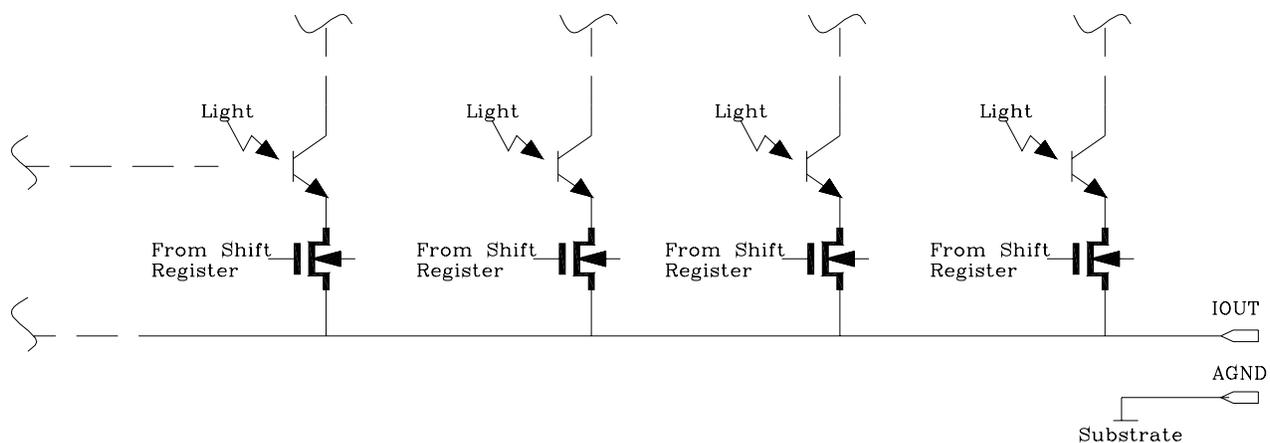
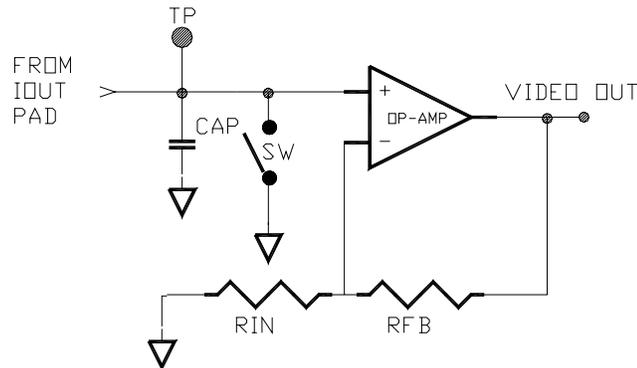
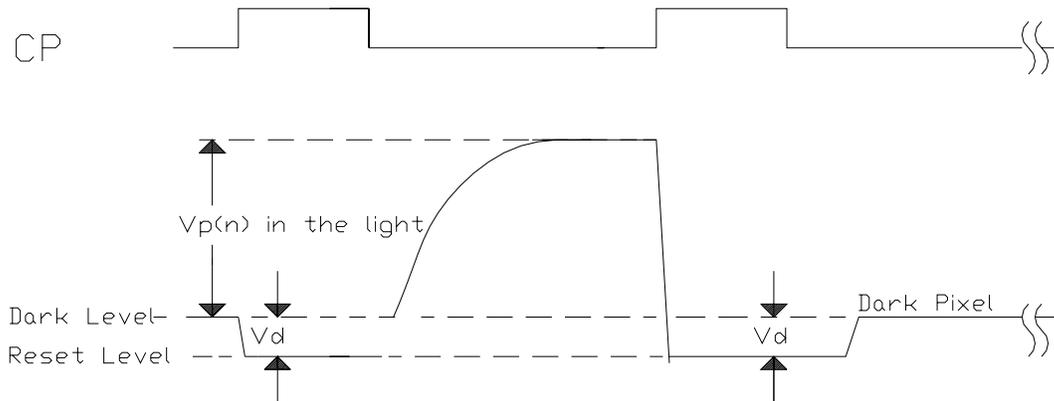
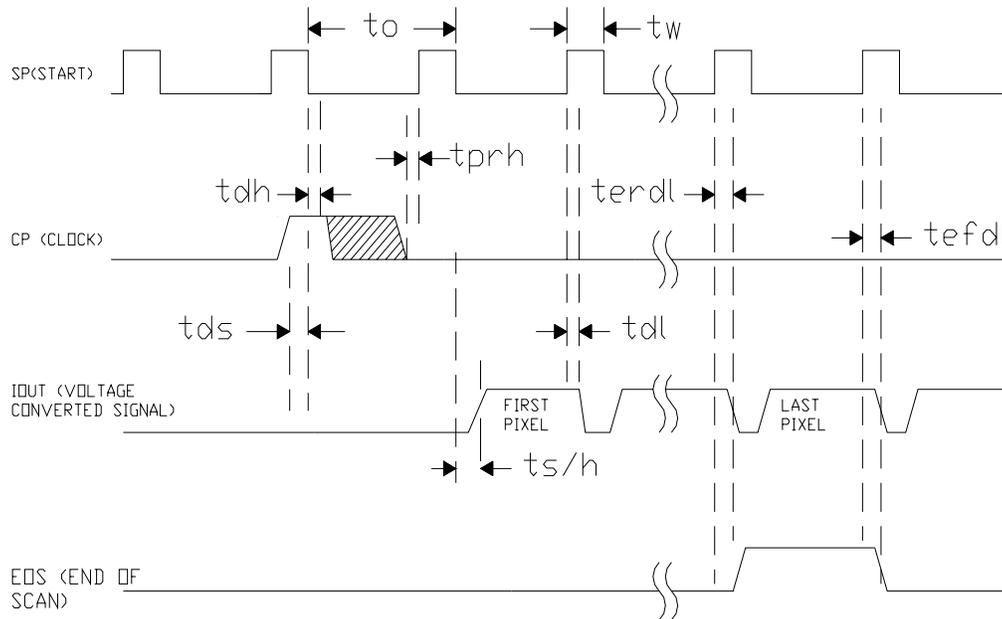

Figure 4. Video Pixel Output Structures
Figure 5. Video Output Test and Application Circuit
Figure 6. Single Pixel Video Output
Figure 8. Timing Diagram Of The PI3033B Sensor
Where $V_p(n)$ is the amplitude of nth pixel in the sensor chip and N_{pixels} is the total number of pixels in sensor chip. V_{pavg} is converted from impulse current video pixel into a voltage output. See Figure 4, Video Pixel Output in section Output Circuit Of The Image Sensor and Figure 5, Video Output Test and Application Circuit in section Signal Conversion Circuit on page 6 and 7.
Exp = LP x Tint, where LP is light power (Yellow-Green) and Tint is as defined above. See Figure 6, Vpavg Output versus Light Exposure in section Video Output Response Under Exposure, on page 8.
The video signal from each photo-site is connected to a common video line on the sensor. Each photo-site is composed of a phototransistor with a series MOS switch connecting its emitter to a common video line. The video line is connected to the pad labeled IOUT. The photo-sensing element is the base of the phototransistor where it detects and converts the light energy to proportional charges and stores them in its base capacitance. When the MOS switch is activated, the emitter is connected to the video line and acts as source follower, producing an impulse current proportional to the stored charges in the base. This current is a discrete-time analog signal output called the video pixel. Accordingly the video pixel is proportional to the light energy impinging in the neighborhood of its photo-sites. Figure 4, Video Pixel Output Structures, show the output structure of four photo-sites out of 64. The multiplexing MOS switch in each photo-site terminates into the output pad, IOUT, through a common video line. The shift register sequentially accesses each photo-site by activating the MOS switch. As they are accessed, a sequence of video pixels is sent to the IOUT where they are processed with an external signal conversion circuit.
Figure 5, Video Output Test and Application Circuit shows a simple circuit that provides the cleanest technique in processing the video output. It integrates all the currents from each pixel element onto a capacitor, CAP. Then the CAP is reset to zero volts by activating the shunt switch, SW, and connecting the video line to ground prior to accessing the following pixel element. Simultaneous to SW activation, the pixel element storage is, also, reset to the dark level, hence initialized for the new pixel integration process. Since this process sums the switch edges and signal current pulses onto the CAP, it minimizes the switching patterns on the video pixels. The summed charges stored in the CAP, produces a pixel voltage with amplitude proportional to the charge from the current pulse. Since switching energies are high frequencies components, they tend to integrate to a 0 value and the remainder adds a constant value to the dark level. The signal pixels $V_p(n)$ is referenced to the Dark Level as it is seen in Figure 6, Single Pixel Output Voltage that depicts the typical pixel waveform.
- (1) Applies to both CP and SP.
- (2) The output is a current that is proportional to the charges, which are integrated on the phototransistor's base via photon-to-electron conversion. For its conversion to voltage pixels see Figure 4, Video Pixel Output in section Output Circuit Of The Image Sensor.
- (3) Although the clock frequency, Fclk, will operate the device at less than 100KHz, it is recommended that the device be operated above 500KHz to avoid complication of leakage current build-up. In applications using long CIS module length, such as an array of image sensor > 27, increases the readout time, i.e., increases Tint, hence, leakage current build-up occurs.
- (4) The clock duty cycle typically is normally set to 25 %. However, it can operate with duty cycle as large as 50 %, which will allow more reset time at the expense of video pixel readout time.
The timing relationships of the video output voltage and its two input clocks the start pulse, SP, and the shift register clock, CP, along with the shift register EOS output clock are shown in Figure 8, Timing Diagram Of The PI3033B Sensor. The switch timing specification for the symbols on the timing diagram is given in Table 5, Timing Symbol's Definition below the timing diagram. The digital clocks' levels are +5 Volts CMOS compatible. The video, IOOUT, is specified in Figure 4, Video Pixel Output in section Output Circuit Of The Image Sensor.
The difference is in the arrangement of the two shunt switches, U2D, and U2A. U2D is a counterpart to SW in Figure 5. Video Output Test and Application Circuit. A DC restoration capacitor, C20, with value of 100pf added between the shunts switch. The first, U2D, clamps the video line to ground to reset the image sensors. Simultaneously the second, U2A, clamps the node between C20 and amplifier input to a output reference bias voltage that is on the node between R4 and R9. These resistors are voltage divider that sets the DC operating level of the amplifier's output by applying same bias voltage to both inputs of the amplifier